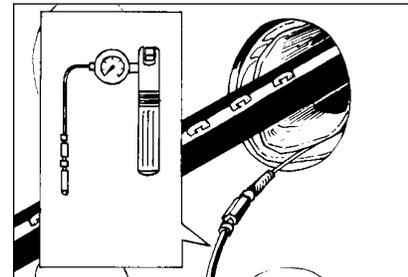

Figure 11
- Inflate the TDUX duct seal until the needle on the inflation tool's gauge reaches the green or yellow area (45 p.s.i.). Keep the pressure in the green or yellow area for 30 seconds, then shut the tool off. (Figure 11)